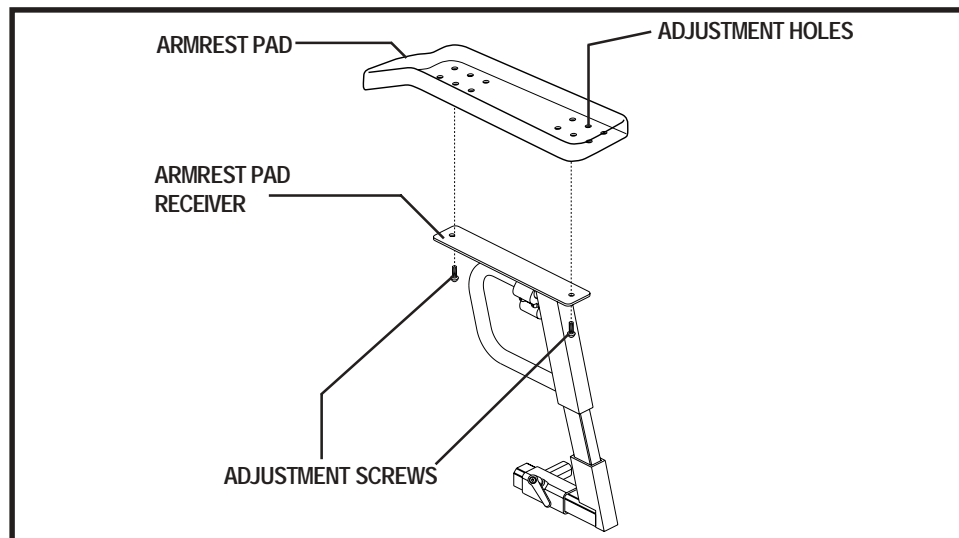
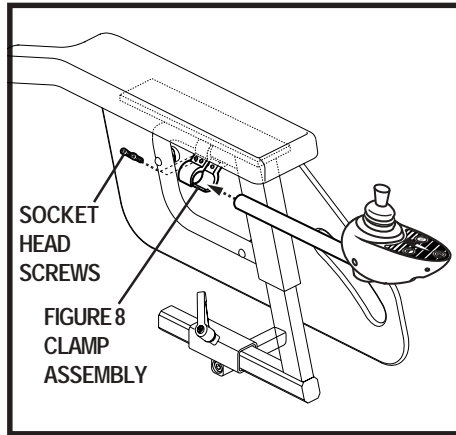

Figure 8. Armrest Pad Position Adjustment
Figure 15. Controller Position Adjustment
1. Remove each adjustment screw from the underside front and back of the armrest pad. See figure 8.
4. Loosen the socket head screws on the figure 8 clamp assembly located on the armrest. See figure 15.
8. Tighten the socket head screws to secure the manual recline lever assembly in the figure 8 clamp.
10. Tighten the socket head screws to secure the controller in the figure 8 clamp.
2. Loosen the socket head screws on the figure 8 clamp assembly located on the armrest. See figure 15.
4. Tighten the socket head screws to secure the controller in the figure 8 clamp assembly.